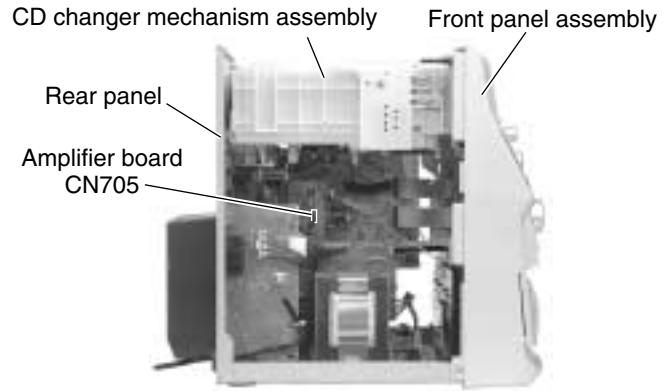

Fig.4
■ **Removing the CD changer mechanism assembly (See Fig.4 and 6)**